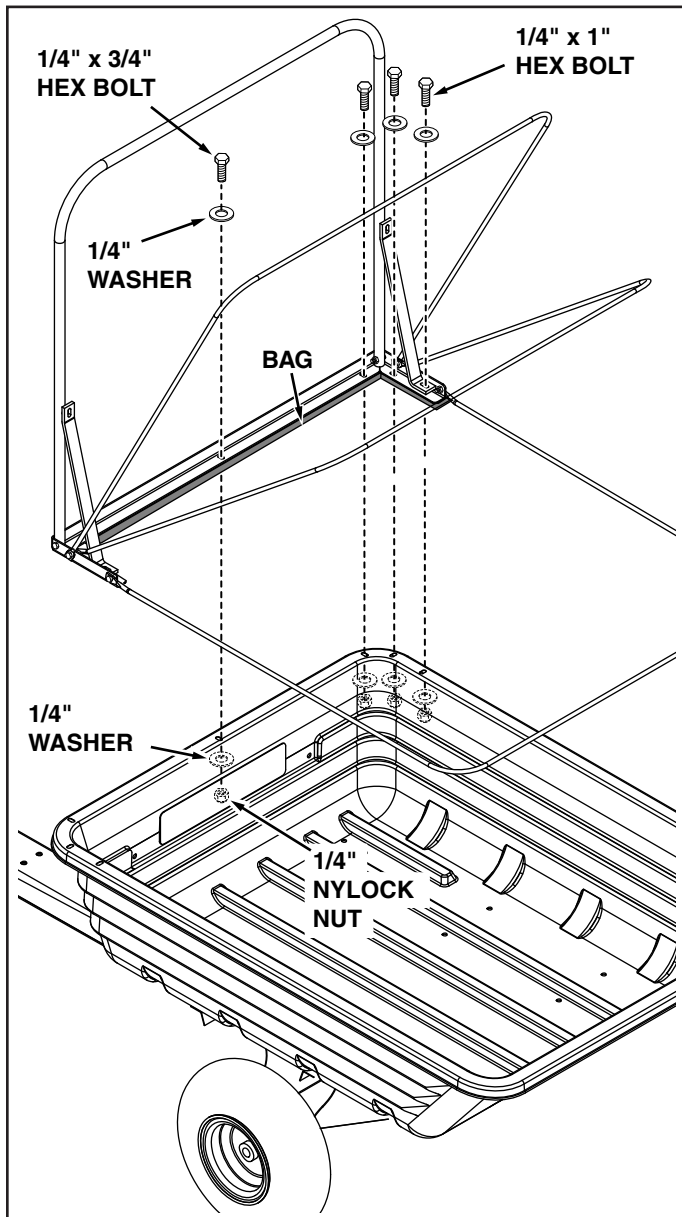

**FIGURE 20**
- Attach the braces to the front support tube using two 1/4" x 1-1/4" hex bolts and 1/4" lock nuts. **TIGHTEN. Do not over tighten** and compress support tube. See figure 20.